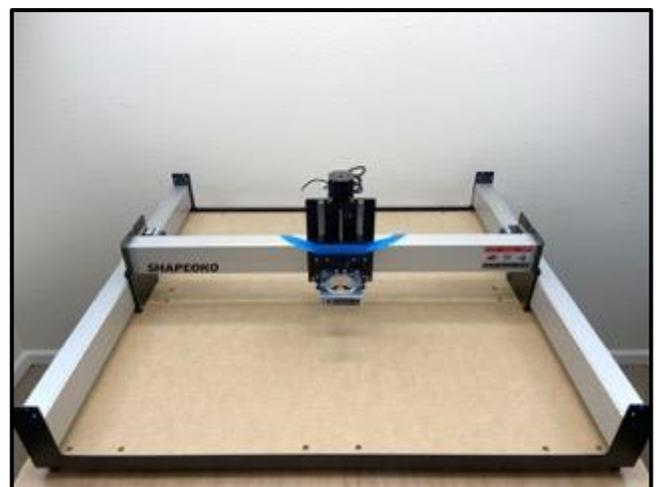

Figure 4-9
1. With the help of another person, very carefully lift, rotate, and lower the gantry so that the Y1- and Y2-rails are positioned between the front and rear endplates. The Y1-rail should be along the left, the Y2-rail along the right, and the Z-Plus facing front. See *Figure 4-9*.